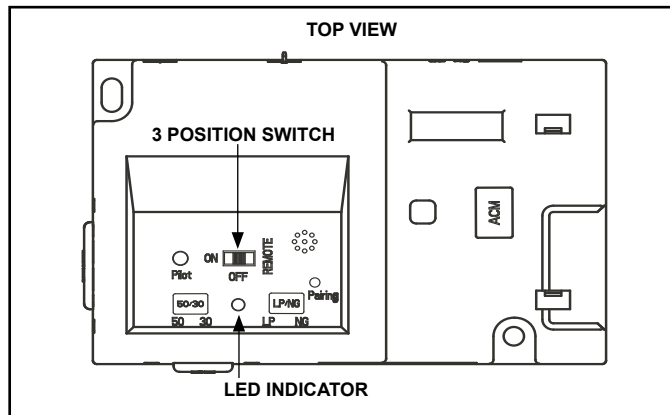

Figure 3.10 IFT-ECM
1. The Electronic Control Module (IFT-ECM) has a three-position ON/OFF/REMOTE selector switch that must be set for proper operation. See Figure 3.10. When changing switch positions, it is important to pause in each position for 1-2 seconds.